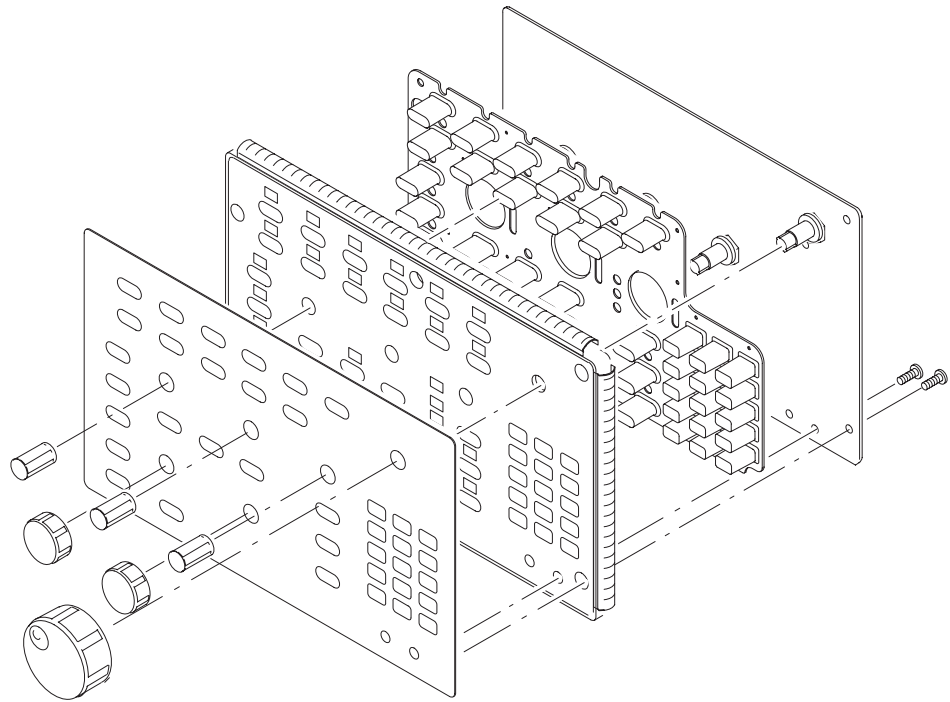

Figure 6-11: Disassembly of Front-Panel assembly
9. Hand disassemble the front-panel assembly components using Figure 6-11 as a guide. Do this procedure in reverse to reassemble using Figure 6-11 as a guide.